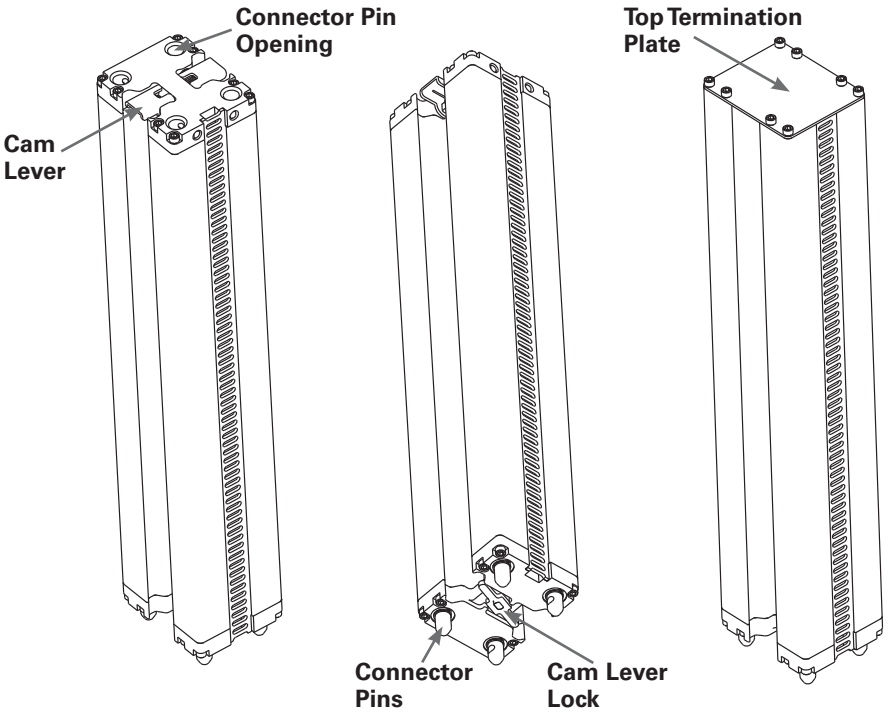

Figure 2-7 - Mast Connectors
3. **Mast Connectors** - Check to be sure the components of the Mast Connectors are present, undamaged, clear of debris and in good working condition. (See Figure 2-7) **NOTE:** *Be sure the top mast Termination Plate is present, undamaged and securely attached to the mast section.*